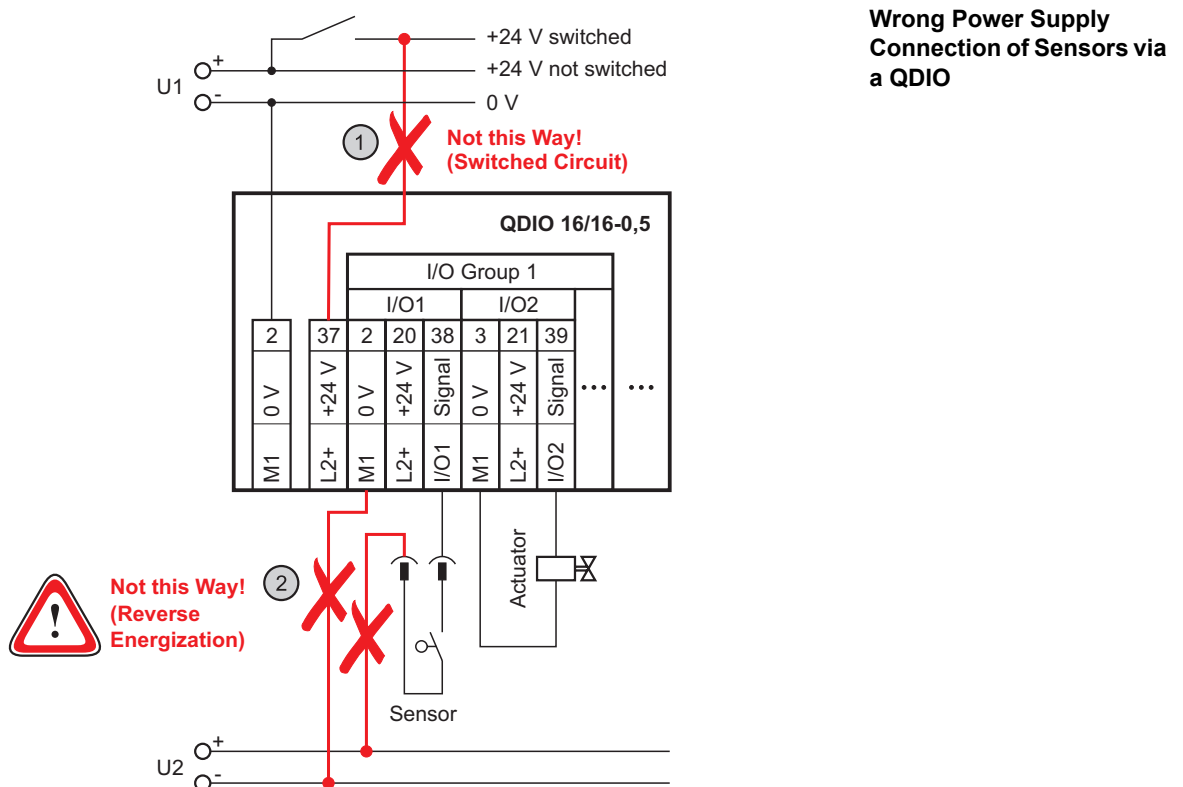

Figure 19: Wrong Power Supply Connection of Sensors via a QDIO
- ① The attached sensors must be supplied with power from a permanently connected (unswitched) power supply that cannot be individually switched off, without switching off the module's power supply. Power must not, as shown in figure 19 on page 40, be supplied from switched power circuits!
- ② The sensors within an I/O group must always be supplied with power from the same power supply that supplies the relevant I/O group. They must not, as shown in figure 19 on page 40, be supplied from a separate power supply (due to the danger of reverse energization)!
- ③ Outputs may be supplied with power from a switched power supply, for example with intermediate devices (emergency stop, manual operation, etc.).